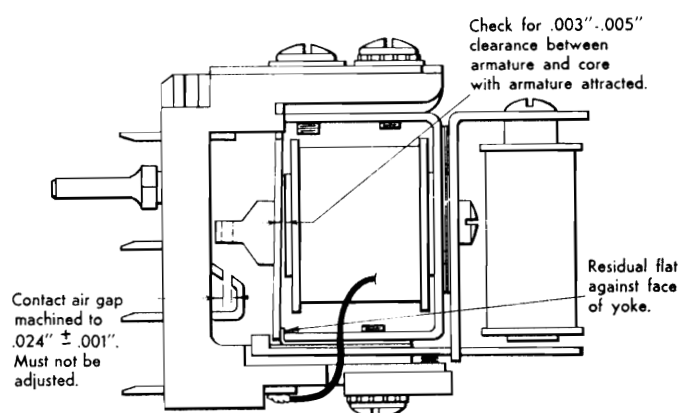

Figure 21. Adjustment 1
1. Figure 21. Contact air gap is machined to .024" ± .001" and should not be adjusted. Any attempt to change this gap will result in an out-of-parallel condition and prevent